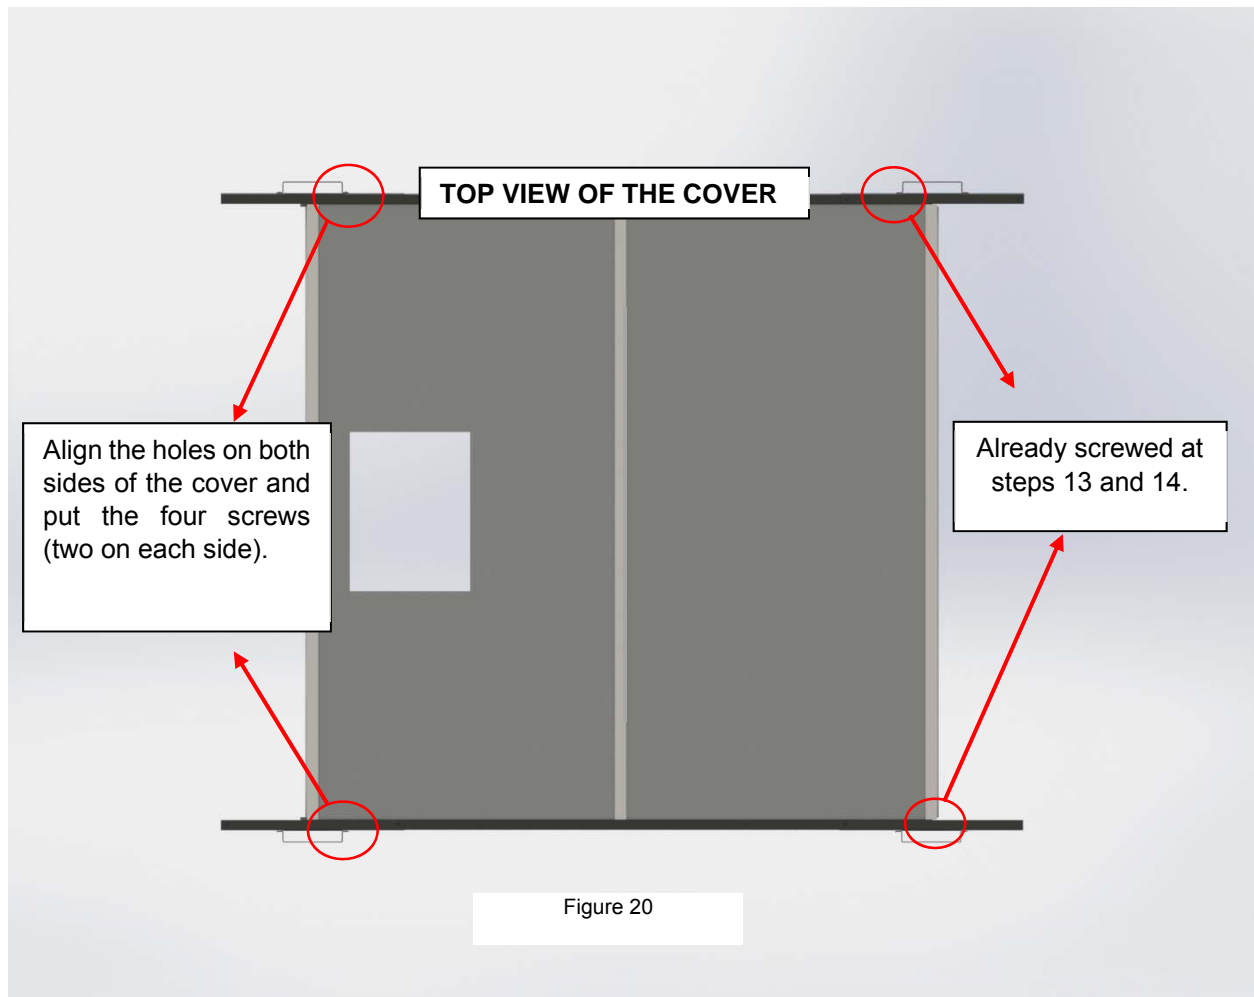

Figure 20
17) Repeat steps 15 and 16 for the opposite side of the cover (Figure 20).